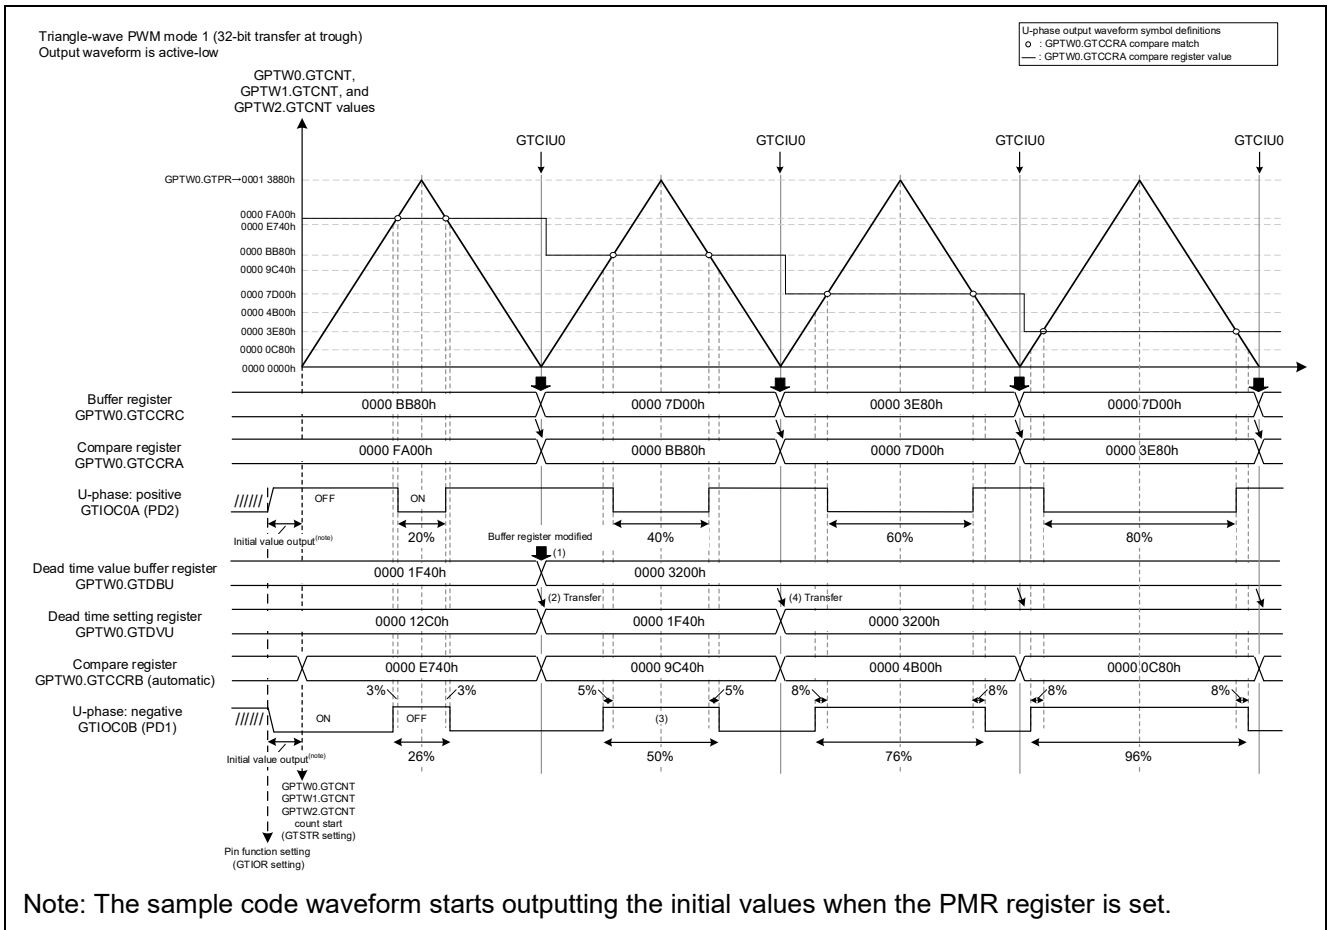

Figure 4.51 Buffer Operations with Automatic Dead Time Setting Function
Figure 4.51 shows an example of operations of the automatic dead time setting function using the buffer register of dead time value.
The value of the GTDBU is modified by the GTCNT counter underflow interrupt (GTCIU0) ((1) in Figure 4.51). The value of the GTDBU is transferred to dead time setting register GTDVU) when a GTCNT counter underflow occurs (at trough) ((2) in Figure 4.51), and the waveform that secures the dead time period after update is output ((3) in Figure 4.51).
In the 3rd cycle, the GTDBU value that was modified at the end of the 1st cycle is transferred to the GTDVU ((4) in Figure 4.51).